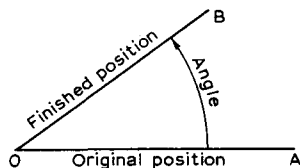

Fig. 1.59
**Angular measurement.** An angle may be looked upon as an amount of rotation or turning. In Fig. 1.59 the line OA has been turned about O until it takes up the position